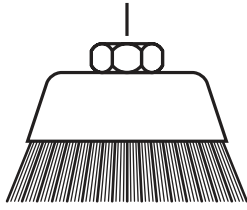

FIG. 3
6.3 FITTING/REPLACING ACCESSORIES (sold separately) – FIG. 3
Press and hold the spindle lock button (3). Loosen the locking flange (4) anti-clockwise using the pin spanner supplied. The spindle may rotate slightly before the spindle lock fully engages. Remove the locking flange only. Clean the flanges and spindle prior to fitting any accessory. If the rear flange is removed for cleaning, ensure it locates correctly on the spindle flats when refitting and does not spin freely. When fitting the appropriate accessory please refer to (Fig.3) for specific details on the locking flange correct orientation as applicable.